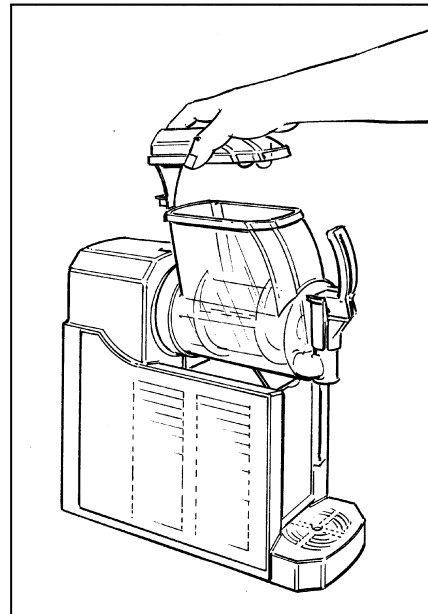

Fig. 1
- **R**emove the cover (fig.1).